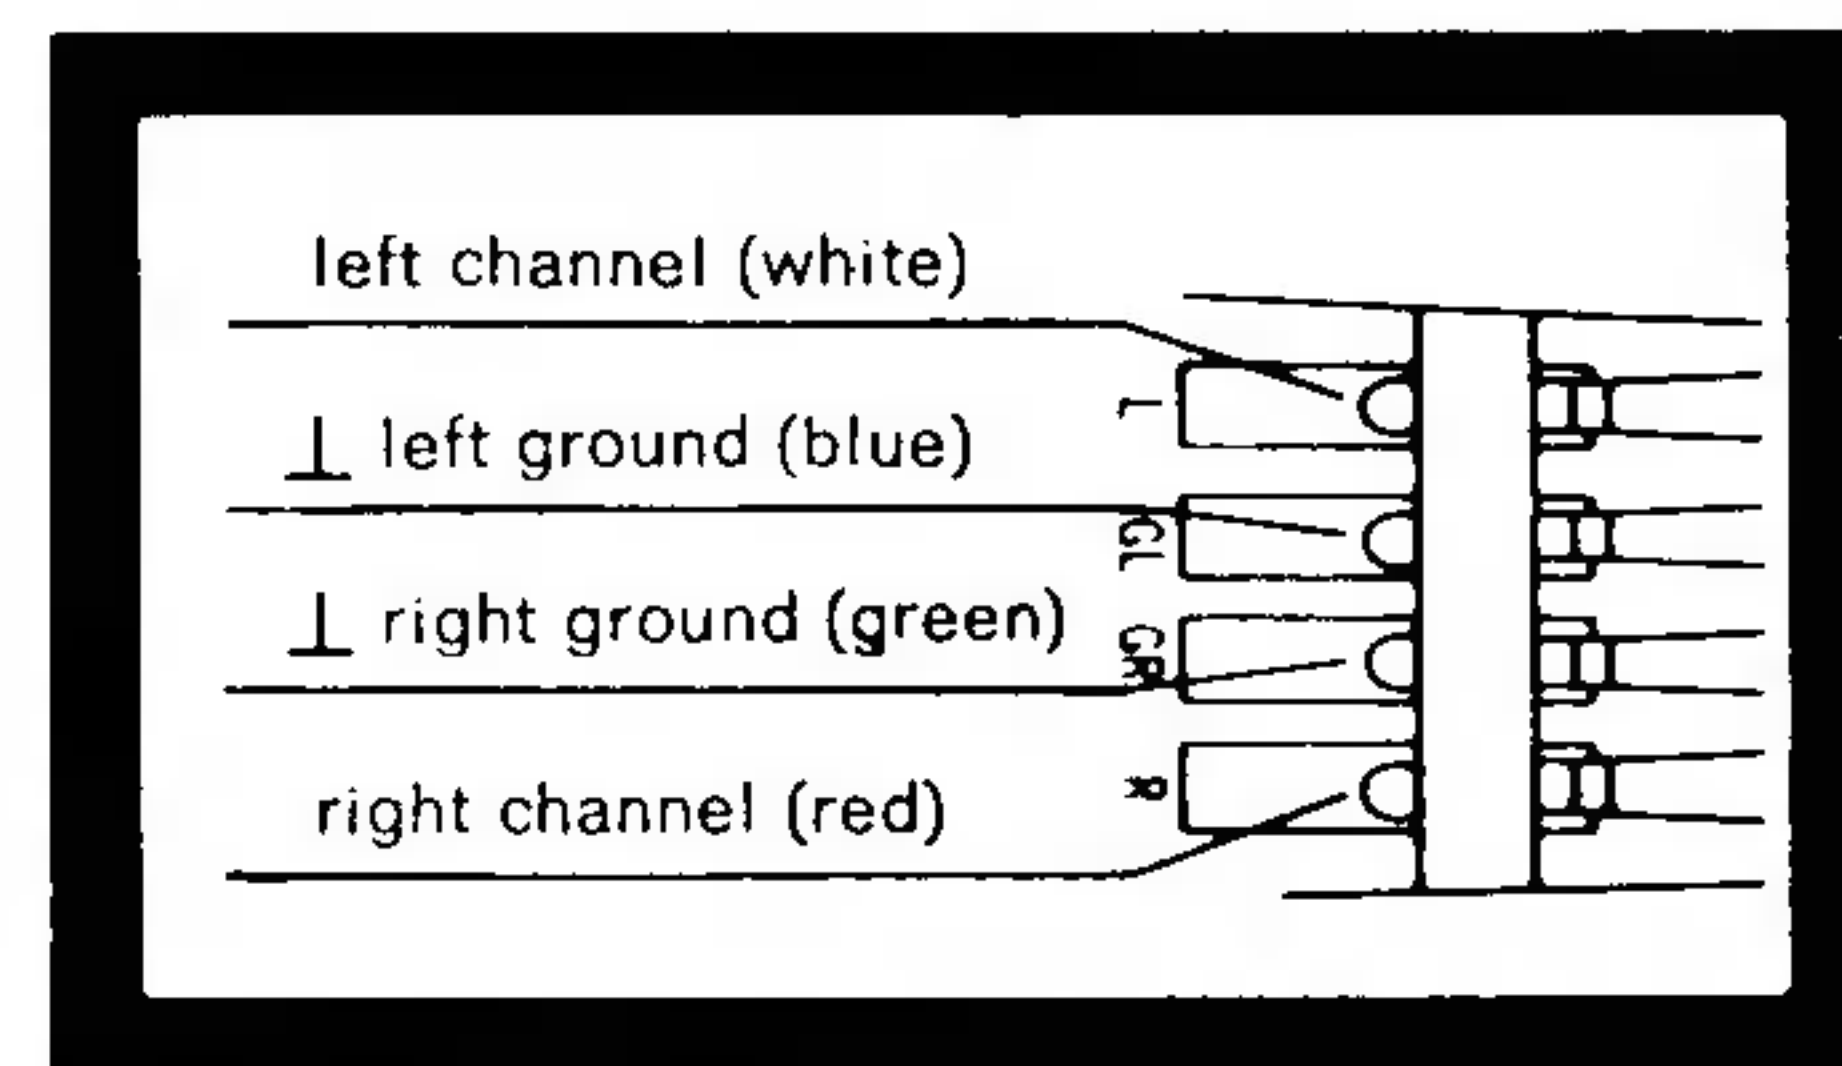

Fig. 15
4. The connections on the cartridge holder are marked and the wire leads are color-coded (Fig. 15). Connect the leads with the appropriate terminal pins on the cartridge.